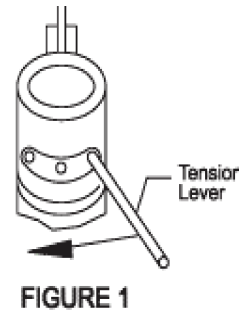

FIGURE 1
- (A) Place the door in the closed position.
- (B) Insert Tension Lever in right hand hole in the adjustment slot see figure 1.